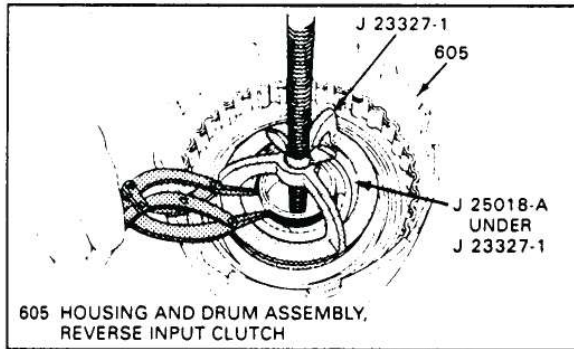

Figure 120
11. Install spring compressor, as shown in Figure 120, compress the return spring assembly and install snap ring.